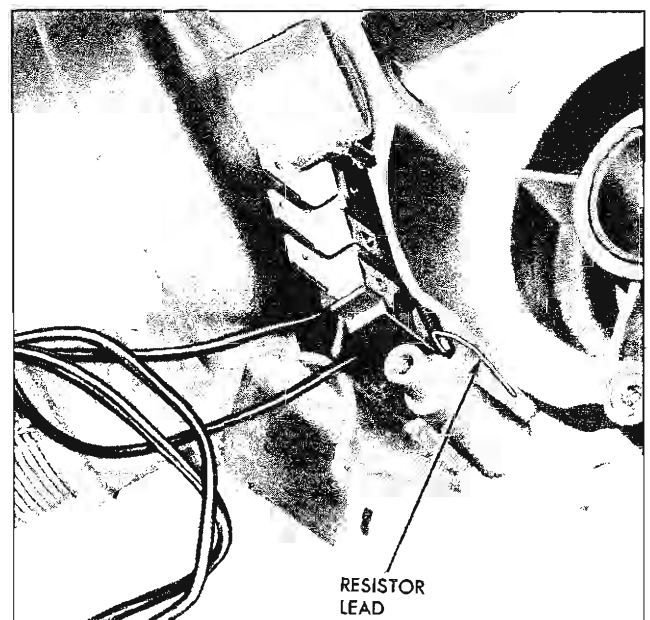

Fig. 68—Terminal Board Resistor
2. Slide terminal board into wiper housing being careful to position the terminal board resistor lead as shown in Figure 68.